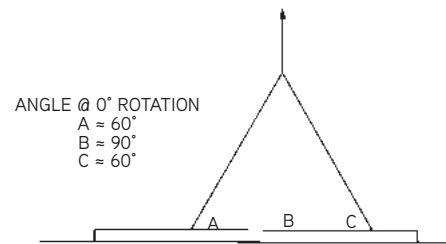

Fig. 3
- For example: the tension load at "B" in Fig. 3 is 100% tension and the tension load at "C" is 85% tension, but when rotated to 30° in Fig. 4, the tension load at "B" has decreased to 80% and the tension load at "C" has increased to 100%.